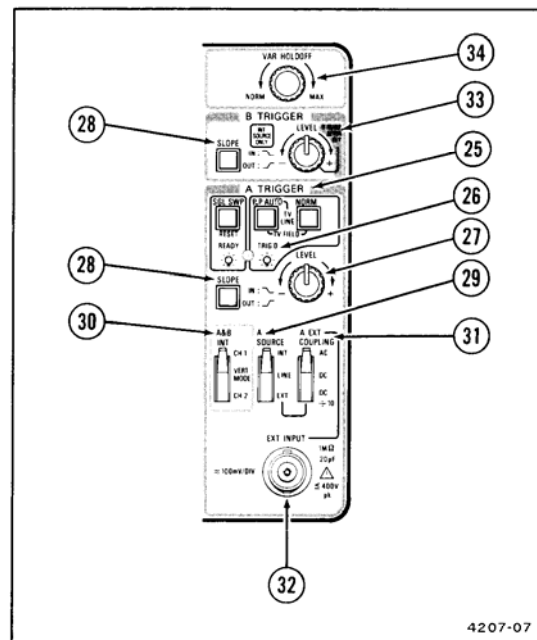

Figure 2-6. Trigger controls, connector, and indicator.
Refer to Figure 2-6 for locations of items 25 through 34.